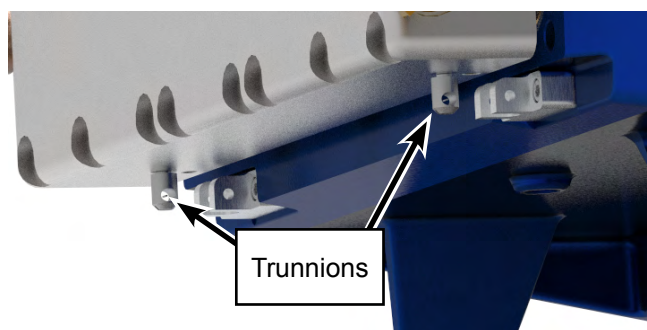

Figure 42: Adjust Trunnions.
- b. Screw both manifold trunnions (Figure 42) in completely and then back them out approximately 2-1/2 turns. Slide the manifold back against the powerframe (or adapter plate).